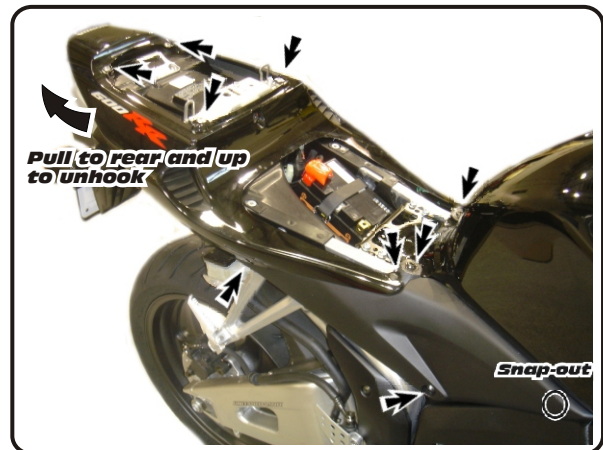

Fig. 1
- 2 Remove right and left side black plastic tank side panels (remove top and side bolts and upper and lower plastic fasteners. Pull front out to unclip and pull toward front of bike to remove) (See Fig. 1).
- 3 Remove seat cowling: Remove 4 bolts (See Fig. 1), pull cowling toward rear of bike and up. Disconnect tail light connector and remove cowling.